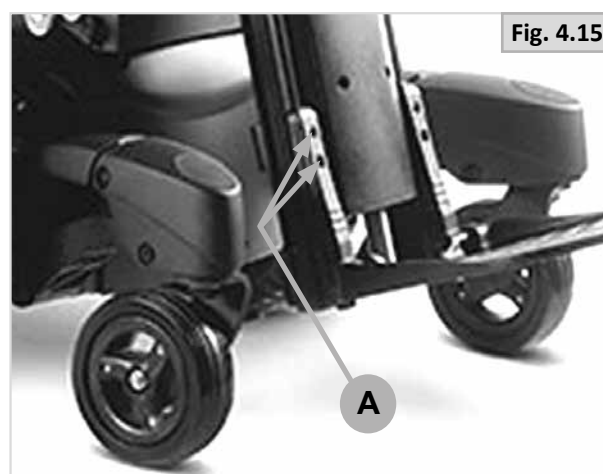

Fig. 4.15
- Undo the 2 bolts with a 5.0 mm Allen key, (A-Fig.4.15).